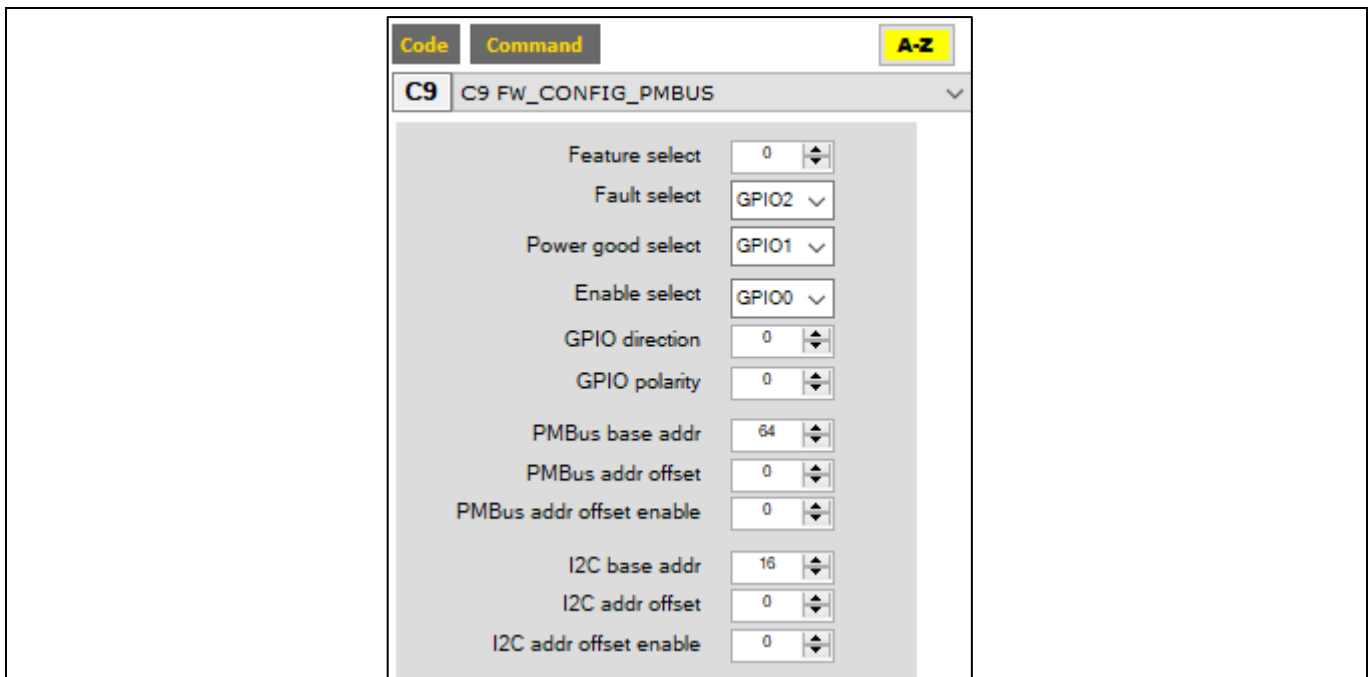

Figure 190 FW_CONFIG_PMBUS
The polarity of GPIO pins is configured by PMBus command 0xC9 FW_CONFIG_PMBUS (Figure 190). The user can use this command to do the following configuration.
- Configure three common GPIO pins: Power good, enable and fault. The default setting is shown in Figure 190.